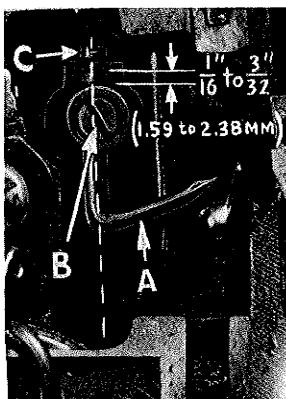
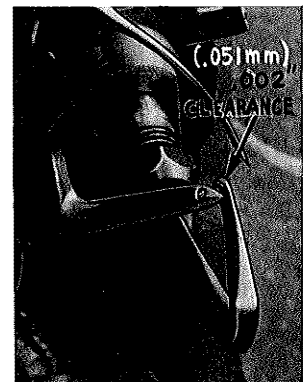

Fig. 8
Fig. 9
Insert upper looper (A, Fig. 8) in its holder. Screw (B) holds upper looper in its holder and permits it to be pushed in or out or turned around its shank. Insert upper looper holder into upper looper shaft, if it is not already in place. Screw (C, Fig. 8) on clamp holds the upper looper holder in the shaft. Locate upper looper in its holder so that the shank extends $\frac{1}{16}$ to $\frac{3}{32}$ inch (1.59 to 2.38 mm) beyond holder (Fig. 8), for Styles 39500 QL, QN, QV, QX, RU, SR, SX and TY; $\frac{1}{32}$ to $\frac{1}{16}$ inch (.79 to 1.59 mm) for Styles 39500 RP and TG.
When the upper looper is at the right end of its stroke, upper looper holder should be set to position upper looper shank about vertical on Styles 39500 QN, QV, QX, SX and TY (Fig. 8). On Styles 39500 QL, RP, RU, SR and TG the upper looper holder should be set to position the upper looper shank slightly back of vertical. Be sure, on all Styles, there is a clearance between heel of looper and the casting. By adjusting looper holder in or out of upper looper shaft and by turning the looper around its shank, set upper looper point to cross lower looper to the left of the lower looper eye with .002 to .004 inch (.051 to .102 mm) clearance (Fig. 9).
NOTE: For the dimensional settings of the other Styles refer to Fig. 11. For example, $\frac{1}{2}$ inch (12.70 mm) dimension is increased by turning upper looper holder counterclockwise, looking from left end of machine; $\frac{5}{32}$ inch (3.97 mm) dimension is increased by pulling upper looper holder to the left, out of upper looper shaft. After these changes are made it may be necessary to turn upper looper around its shank slightly to maintain the condition shown in (Fig. 9).
Check setting to avoid interference between upper looper and needle on needle downstroke. If needle rubs the back of upper looper, pull looper out of its holder slightly and rotate looper a short distance counterclockwise, looking from left end of machine. Reset to maintain dimensions of Figs. 9, 10, 11, 12.